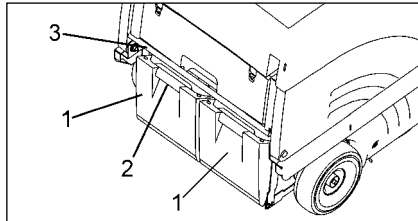

Fig.8
- Fold bow (Fig. 8/3) up = the dirt hoppers (Fig. 8/2) are lowered.
- Use the recessed grip (Fig. 8/1) of one of the hoppers to lift it lightly and extract it.
- Re-insert dirt hopper (Fig. 8/2) and fold down the bow (Fig. 8/3).